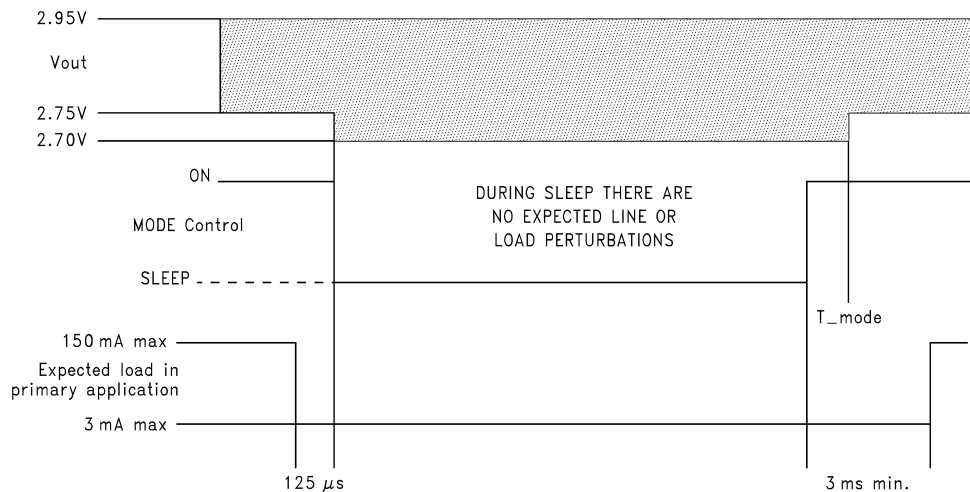
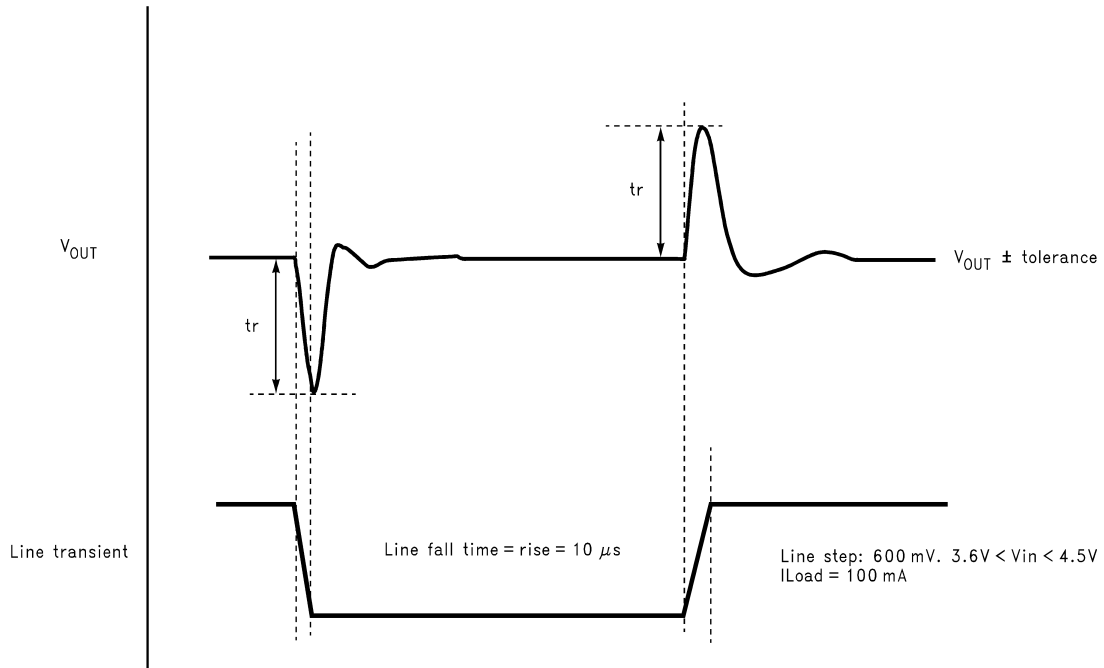

Figure 3.
Figure 4.
- (1) Min and Max Limits are verified by design, test, or statistical analysis. Typical (Typ.) numbers are not verified, but do represent the most likely norm.
- (2) The nominal output voltage, which is labeled $V_{OUT(nom)}$, is the output voltage measured with the input 0.5V above $V_{OUT(nom)}$ and a 1mA load.
- (3) Dropout voltage is defined as the input to output voltage differential at which the output voltage falls to 100mV below the nominal output voltage. V_{IN} less than minimum operating voltage may be used for test purposes.
- (4) On/Sleep Mode voltage tolerance and current capability requirement. See Figure 3.
- (5) This electrical specification is specified by design.
- (6) Line Transient response requirement. See Figure 4.